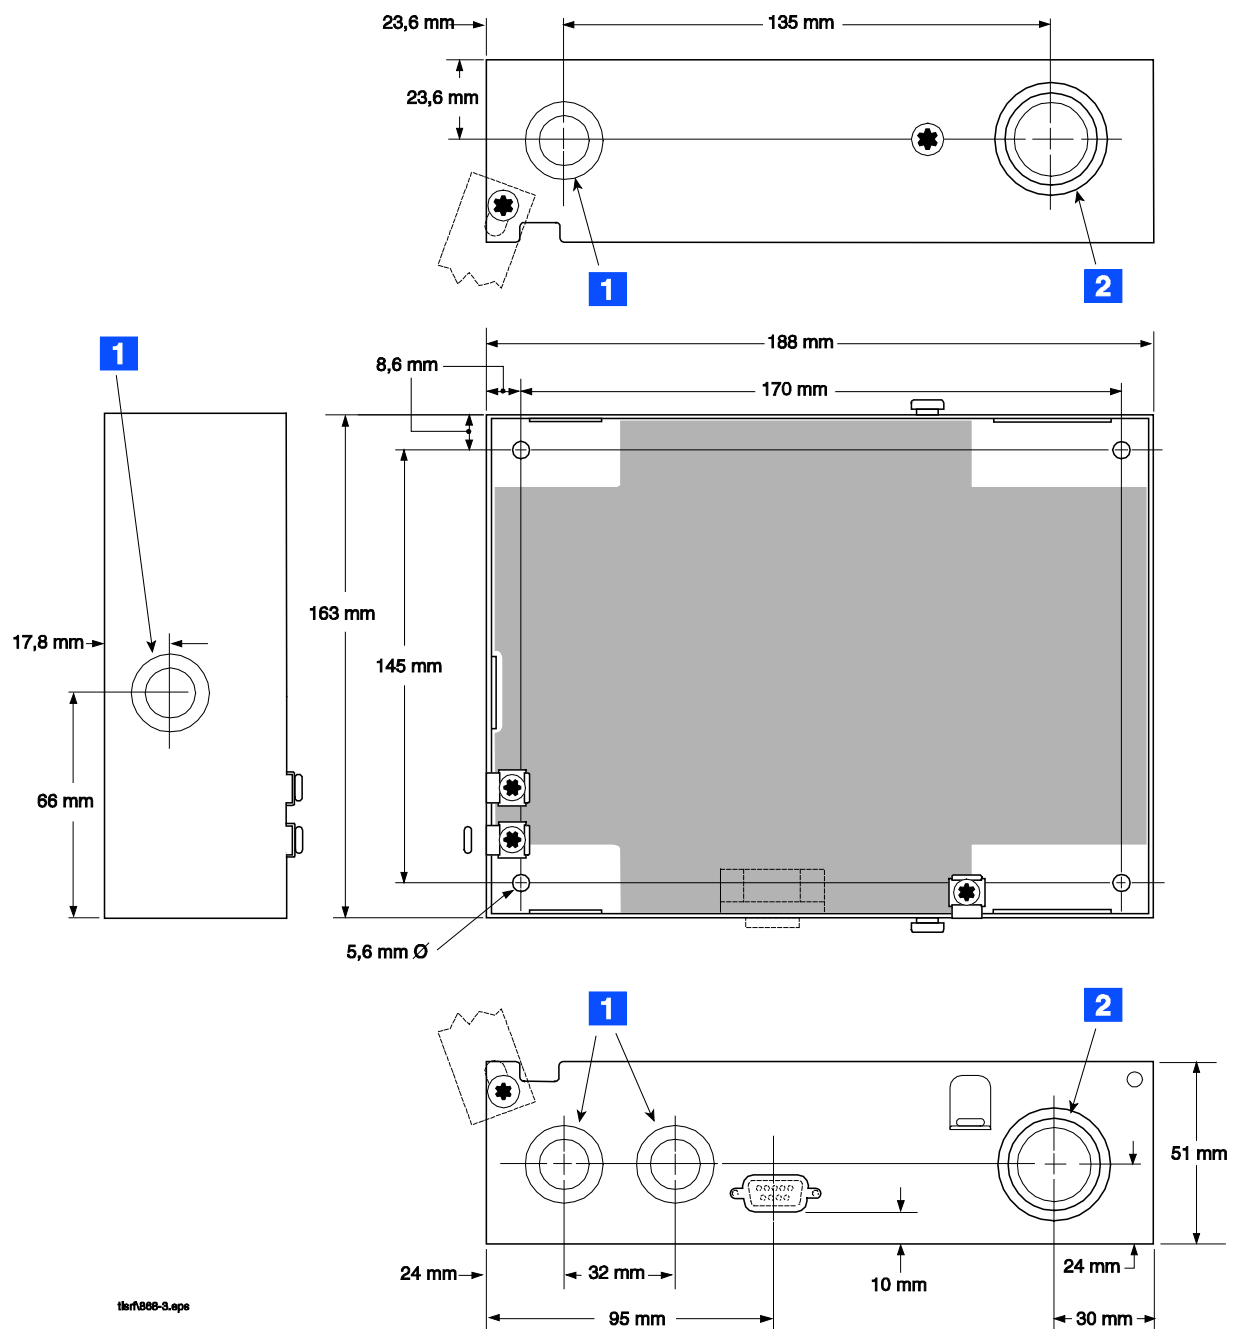
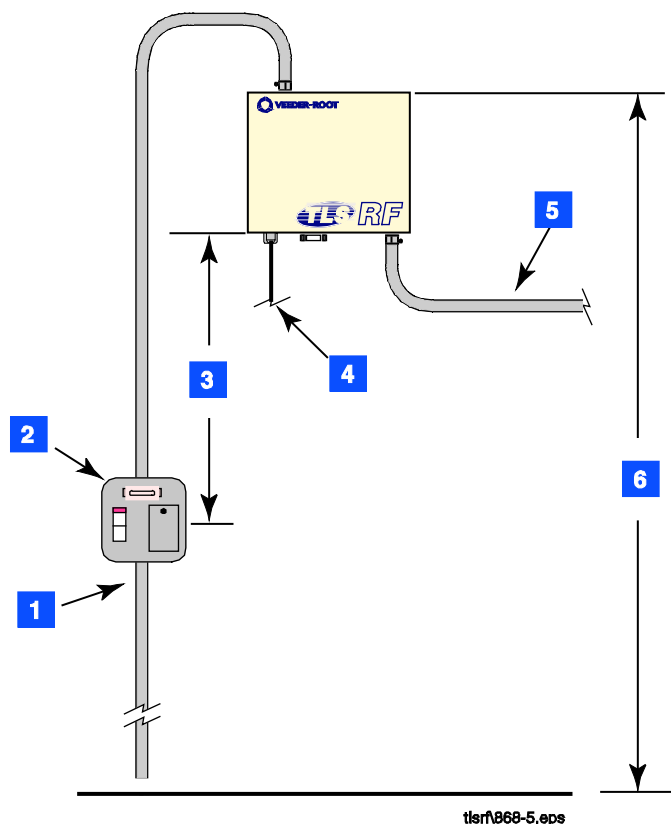

Figure 3. TLS-RF dimensions and designated conduit knockouts
Figure 7. Recommended mounting of TLS-RF
Dimensions of the TLS-RF are shown in Figure 3.
LEGEND FOR NUMBERED BOXES IN FIGURE 3
Figure 7 illustrates recommended unit mounting. Install the unit's fastening devices to the mounting surface using the hole pattern (170 x 145 mm) shown in Figure 3. Mounting screws up to 4.7 mm diameter may be used.
Install metal conduit between the upper power side knockout on the unit and the power panel. Figure 3 shows the three designated knockouts (one each on top, left side, and bottom) through which power wiring can safely enter the unit.
LEGEND FOR NUMBERED BOXES IN FIGURE 7
Attach conduit from the power panel to the unit's power wiring knockouts only (1 on top and 1 on bottom, ref. Figure 3)
- See Figure 3 for actual locations of power conduit knockouts into the unit. Power wiring must enter only in one of these knockouts.